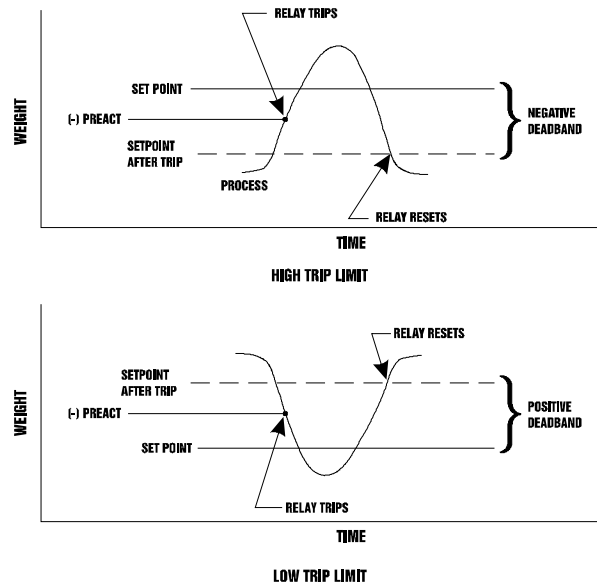

FIG. 3-10 LOW AND HIGH PREACT TRIP LIMITS
- For example: if a set point value was 1000 pounds and the dead band was set to -5 pounds, the relay would close at a 1000 pounds but not open until the weight dropped to 995 pounds. This would be used if a set point is a high trip limit. A positive dead band would be used for a low trip limit. Examples are shown for Low and High Trip Limits. (See Fig. 3-10) Using a set point of 1,000 pounds and a dead band of -800 pounds will cause the level to remain between 200 and 1,000 pounds.